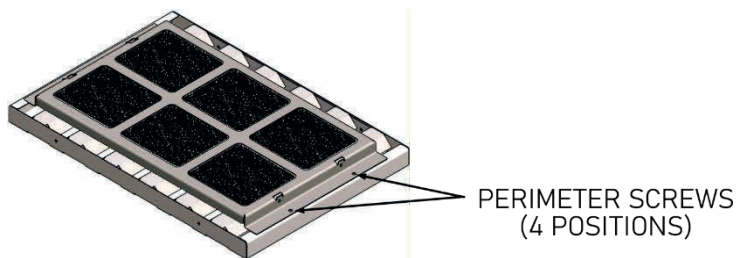

FIGURE 15: CHARCOAL FILTER REMOVAL
2. If the baffles contain a charcoal filter (purification systems), remove the charcoal filter and bracket assembly by releasing the screws around the perimeter before cleaning (FIGURE 15).
Replace charcoal filters (FIGURE 15, page 23) when required. Replacements are sold by your retailer.